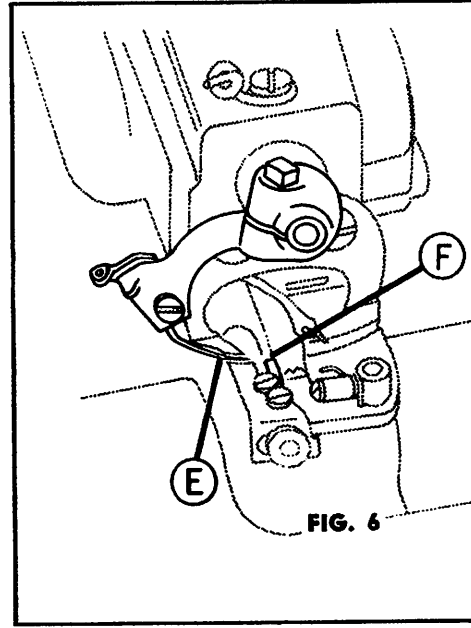

FIG. 6
**IMPORTANT:** First test needle to make sure there is no bur or it is not bent. To check for bur, rub fingernail across point. If needle is bent, it will not rest firmly on needle guide Fig. 6 . (F)
4. EYE of Needle should be at point (E) (Fig. 6) when Needle Lever (C) is at its highest point.